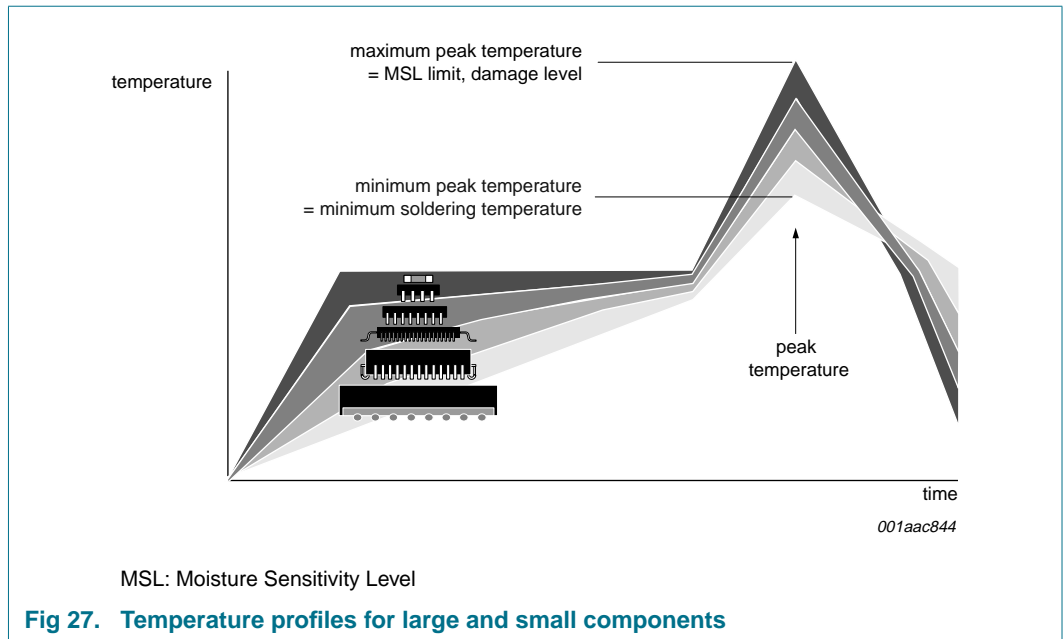

Fig 27. Temperature profiles for large and small components
- Lead-free versus SnPb soldering; note that a lead-free reflow process usually leads to higher minimum peak temperatures (see Figure 27) than a SnPb process, thus reducing the process window
Studies have shown that small packages reach higher temperatures during reflow soldering, see Figure 27.